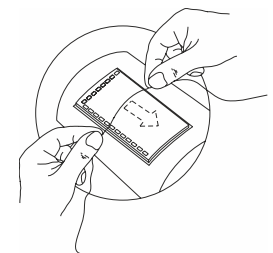

Fig. 6
9. *Place the gel on the Peel-IT™ and detach it from the plastic backing with nylon string, for faster staining or blotting \*(Fig. 6)*
9. Nylon string is provided in every box of gels. Instead of Peel-IT™ (Fig. 6), any 1 or 2 l glass bottle can be used. Bottle need to be fixed to stay in place.